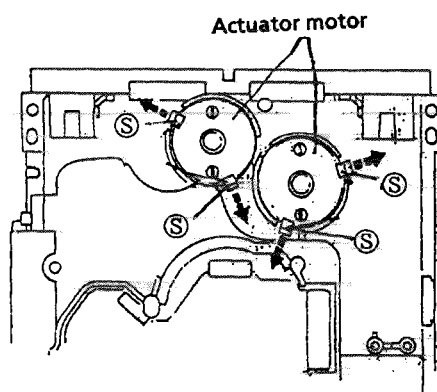

Fig. 2-20
5. Reverse the chassis ass'y and widen 4 pawls ㊞ which secure both actuator motors to its arrows to remove the actuator motors. (See Fig. 2-20.)